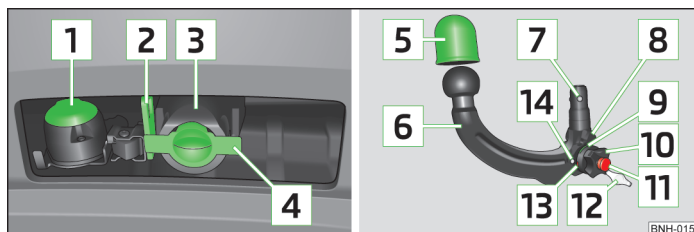

Fig. 5 Carrier of the towing device/ball rod
Explanation of graphic » Fig. 5
- > Pull the cover down off the mounting recess  » Fig. 5 on page 4 in the direction of the arrow .
- Fit the cover for the mounting recess **4** » Fig. 5 on page 4.